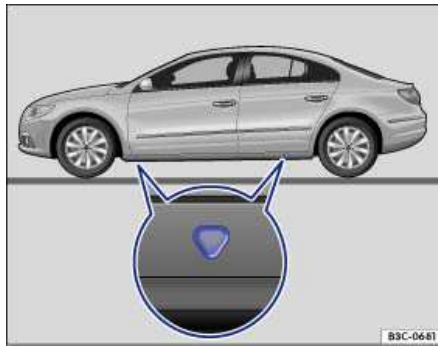

Fig. 191 Lift points for the jack.
The jack must be positioned at one of the 4 lift points marked on the vehicle body (2 on each side as shown in ⇒ fig. 191). You must use the lift point closest to the wheel being changed ⇒ ⚠.
7. Find the jack lift point ⇒ fig. 191 on the vehicle frame that is closest to the wheel to be changed.